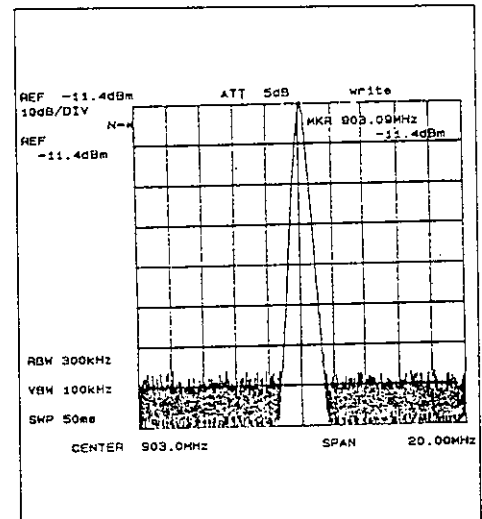

Figure 5-11 Displaying the Measured Signal
- Set the resolution bandwidth to more than three times the modulation frequency (see Figure 5-11).